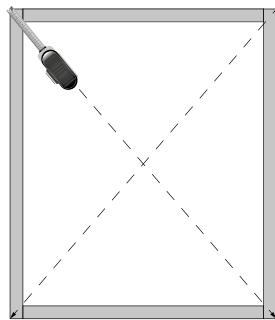

Figure 2
- 2) Measure diagonally all four corners to ensure the base frame is even (see figure 2).